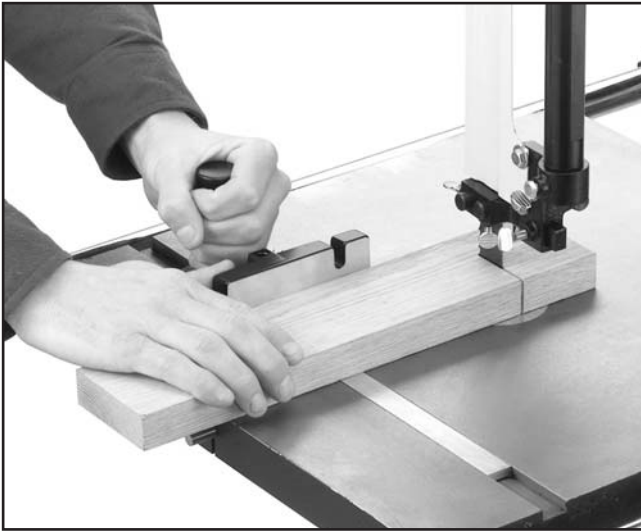

Figure 42. Crosscutting with miter gauge.
4. After all safety precautions have been met, start the bandsaw. Slowly feed the workpiece into the blade and continue the cut until it is all the way through the workpiece. **Figure 42** shows a typical crosscutting operation.
Resawing (**Figure 42**) is the process of cutting a board into two or more thinner boards. The maximum board width that can be resawn is limited by the maximum cutting height of the bandsaw. Maximum cutting height for this bandsaw is 9½".